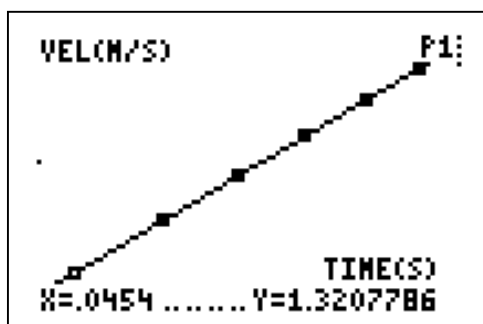

Fig. 1
3. Examine the VELOCITY VS TIME graph (Fig.1).